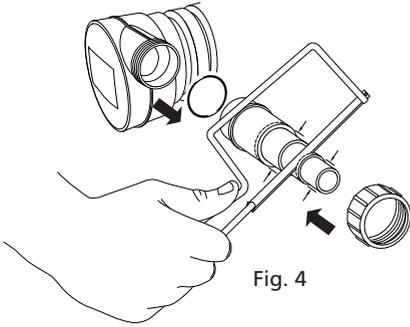

Fig. 4
- 3.4 Cut the two universal hose tails (supplied) to suit the correct size of hose. Fit the hose tails to the inlet and outlet threaded connections using the 'O' seals and threaded nuts supplied (see Fig 4).